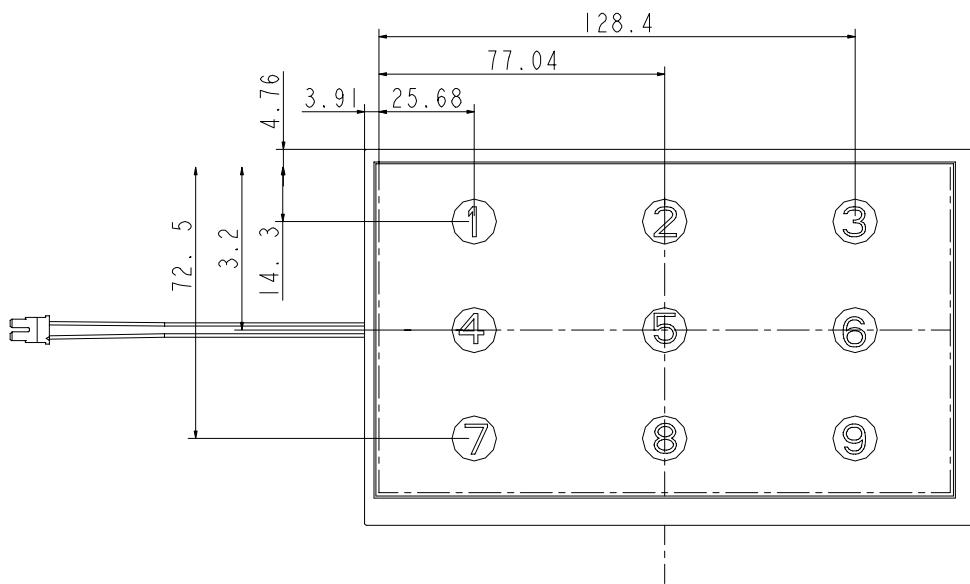

Fig.5 Measuring point
- Measuring point : Fig.5 Measuring point : 1~9 points
Measure contrast ratio on the 5 points (refer to figure5, #1~#9 point)
Measure white luminance on the 5 points as figure 5 and take the average value.